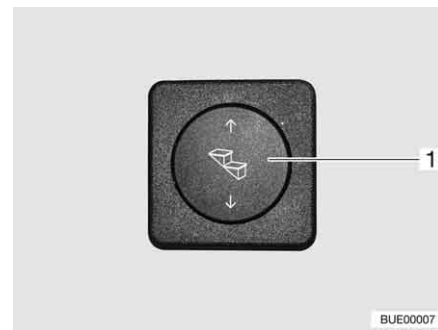

Fig. 13 Operating button for entrance step
- Press the rocker button (Fig. 13,1) down and hold it pressed (at least 3 seconds) until the entrance step has extended completely.
- Press the rocker button (Fig. 13,1) up until the entrance step has retracted completely.